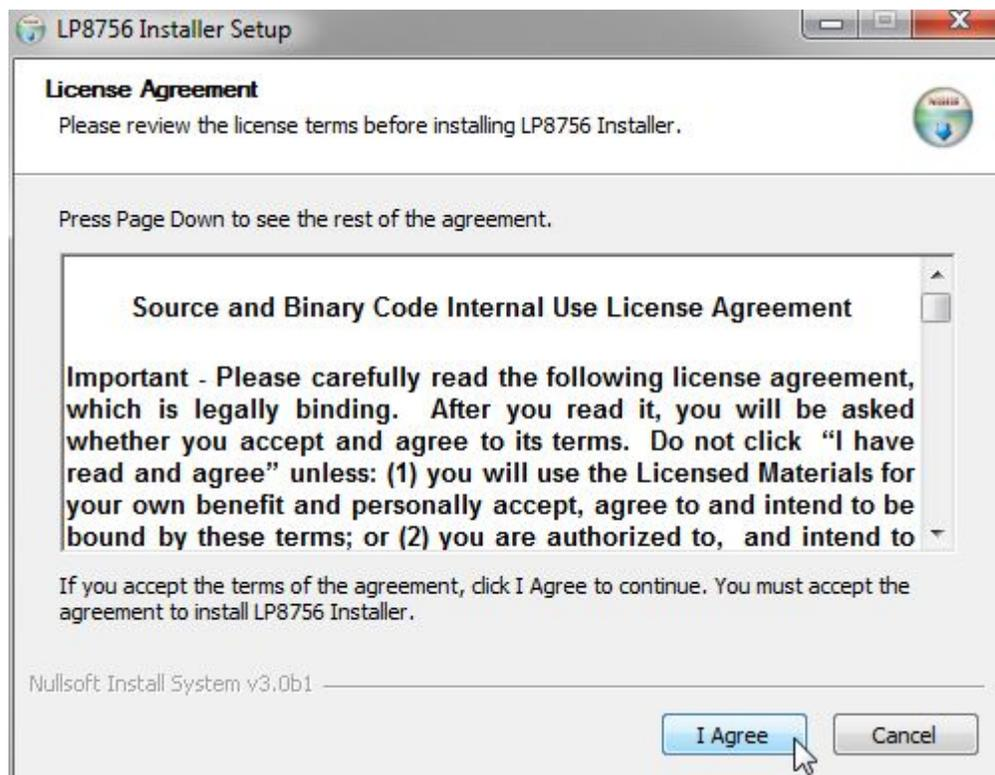

Figure 2. LP8756 Installer License Agreement
2. Installer prompts to accept the license agreement (see Figure 2).